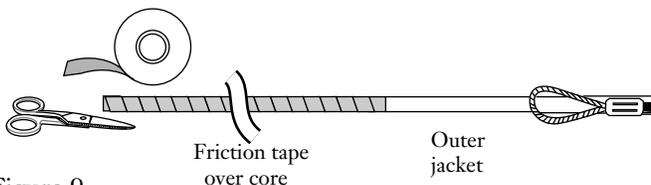

Figure 9
4.8 Beginning at the end of the outer jacket, wrap one layer of **friction** tape over the entire length of the exposed cable core. The friction tape should follow the direction of the sub-units or buffered fibers twists (Figure 9).